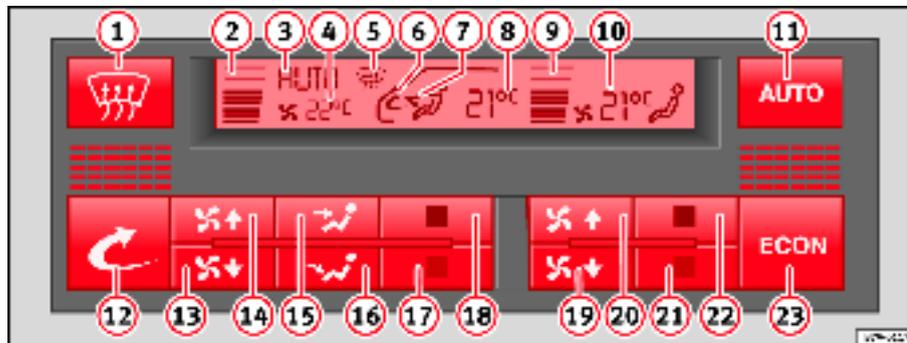

Fig. 119 Instrument panel: Climatronic controls
- The temperature is selected with buttons ⇒ fig. 119 21 and 22. It remains stored until another temperature is selected.